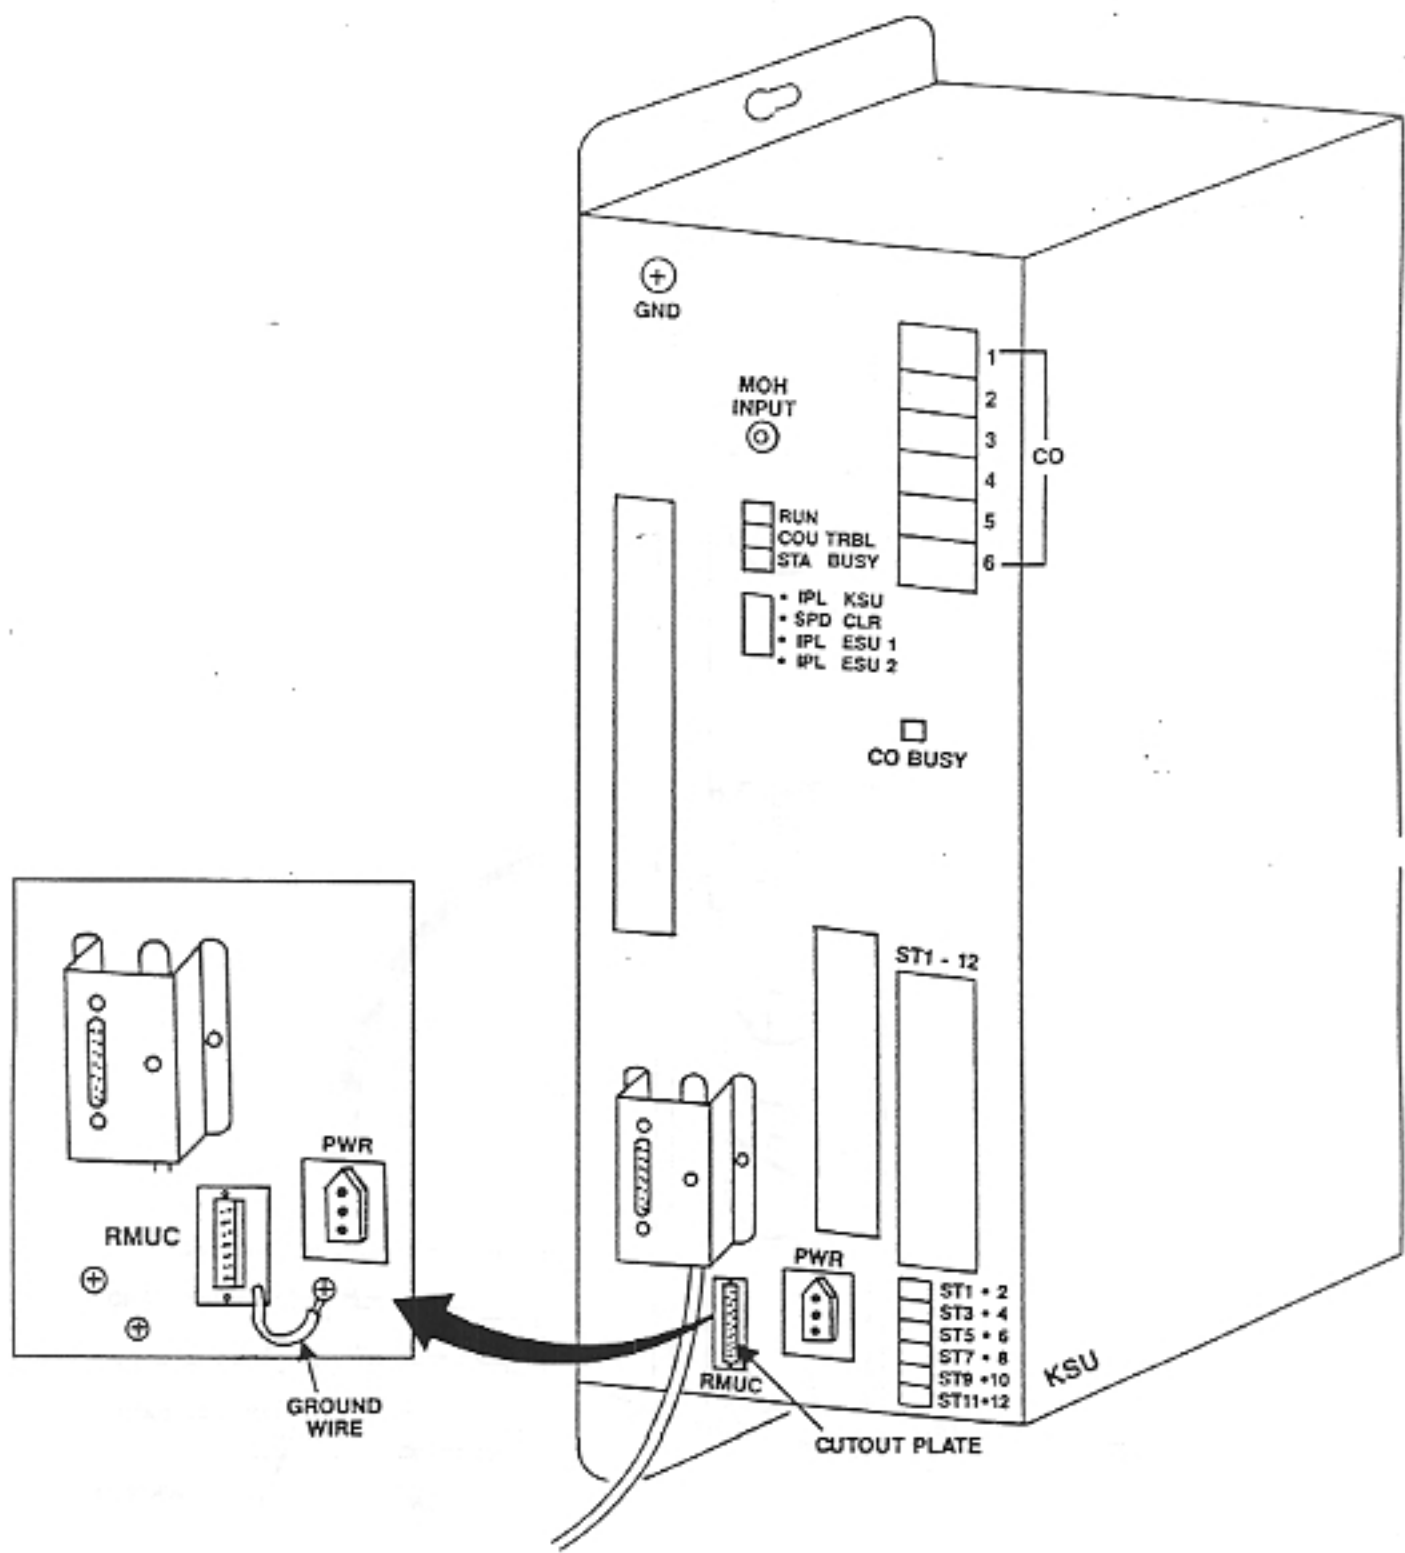
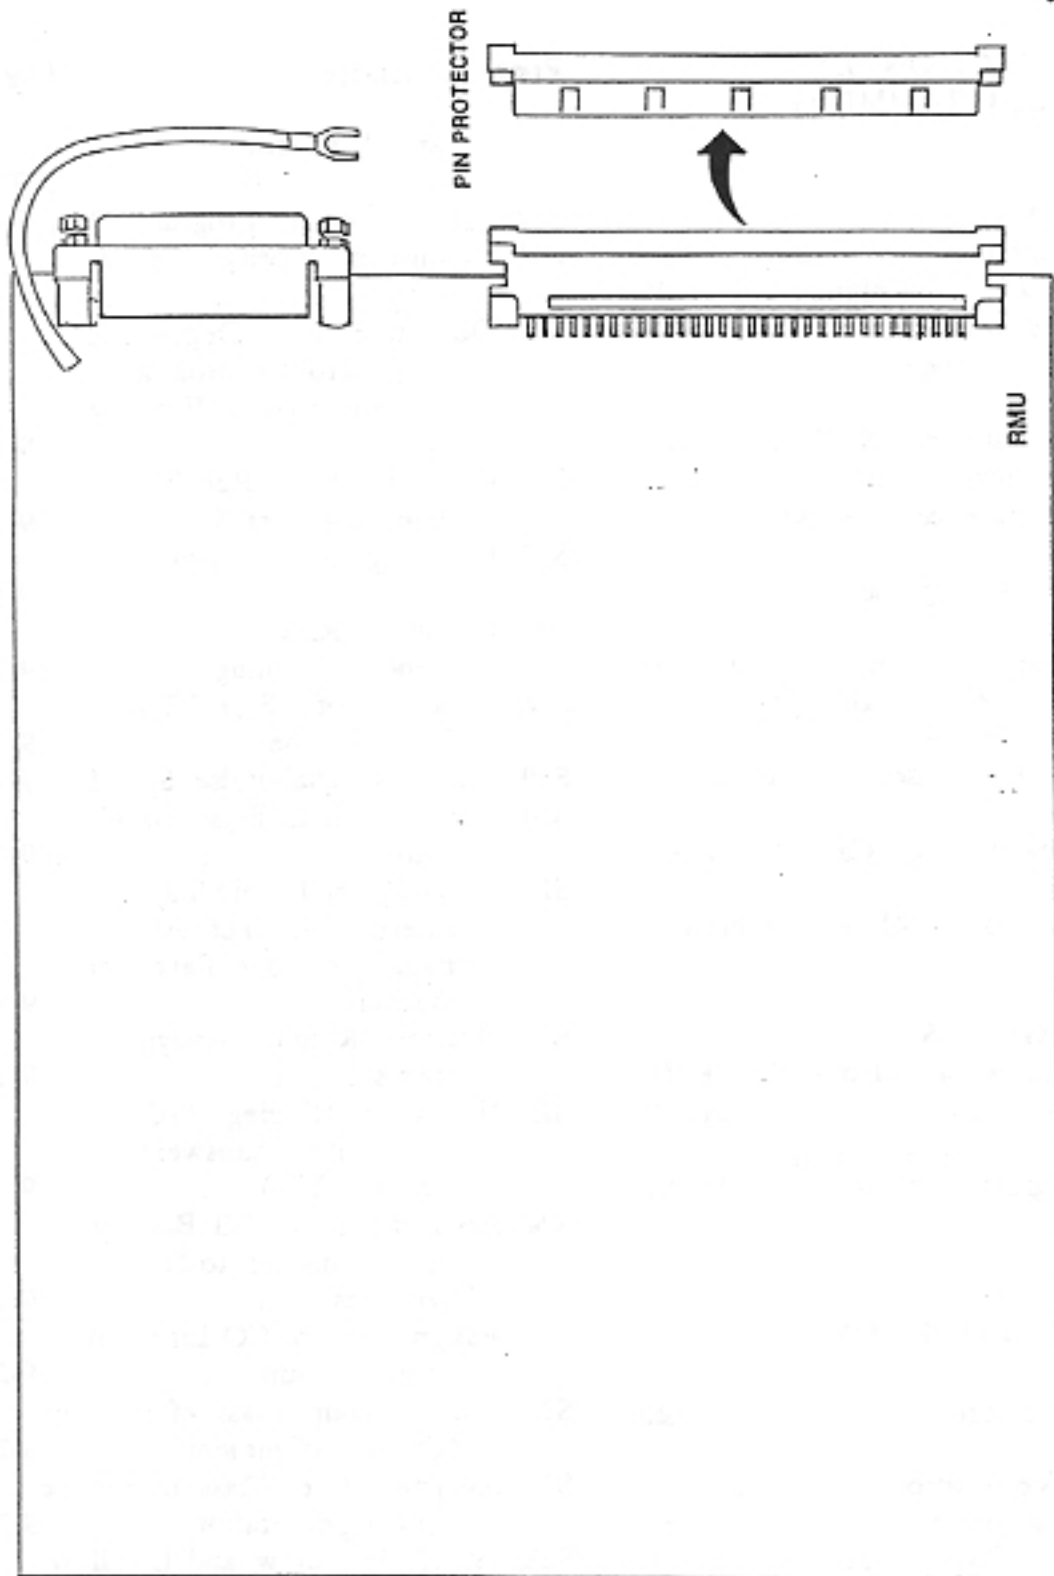

Figure 9-2 Rear View of KSU Cabinet
Figure 9-3 RMU Circuit Card
- 6) Remove cutout plate from the back of the KSU cabinet marked RMUC (refer to Figure 9-2). Remove pin protector on RMU circuit card (refer to Figure 9-3). Install the RMU circuit card into the slot marked RMU, push in until it is firmly seated in the MBD. Connect ground wire to back of KSU cabinet (refer to Figure 9-2).